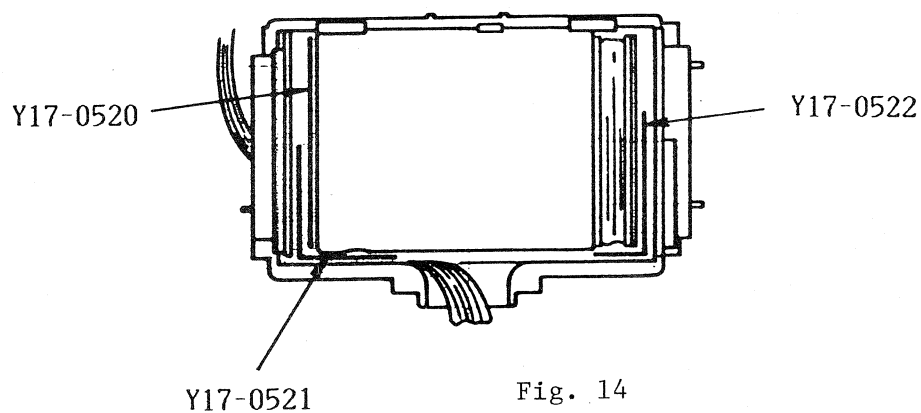

Fig. 14
**CAUTION!** Three Teflon insulating sheets are used in the bounce coupling section. When reassembling, be sure to install them properly as indicated in figure 14.